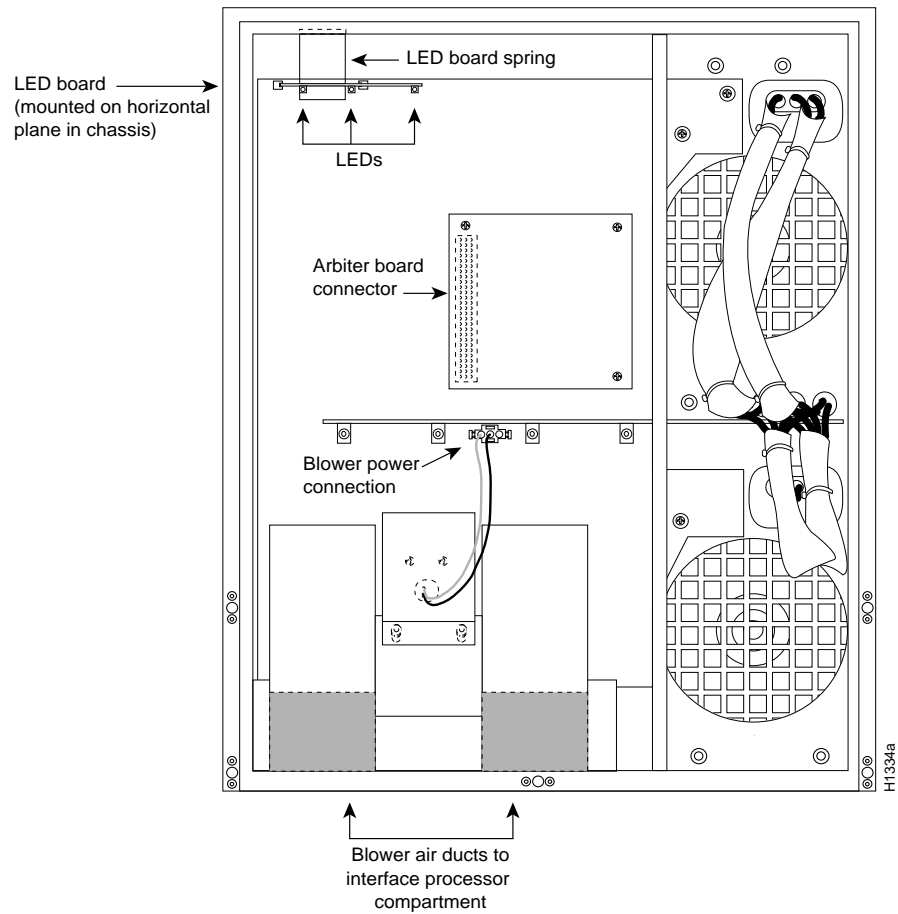

Figure 3 Cisco 7000 Internal Chassis Components, Front View
The LED board is mounted to the backplane on a horizontal plane near the top of the chassis interior (shown edge-on in Figure 3). The board slides into two brackets mounted to the front of the backplane, and a connector on the rear of the LED board mates with a connector on the backplane.
- Step 4:** Locate the LED board (see Figure 3), which is mounted on a horizontal plane in two plastic brackets near the top of the chassis.